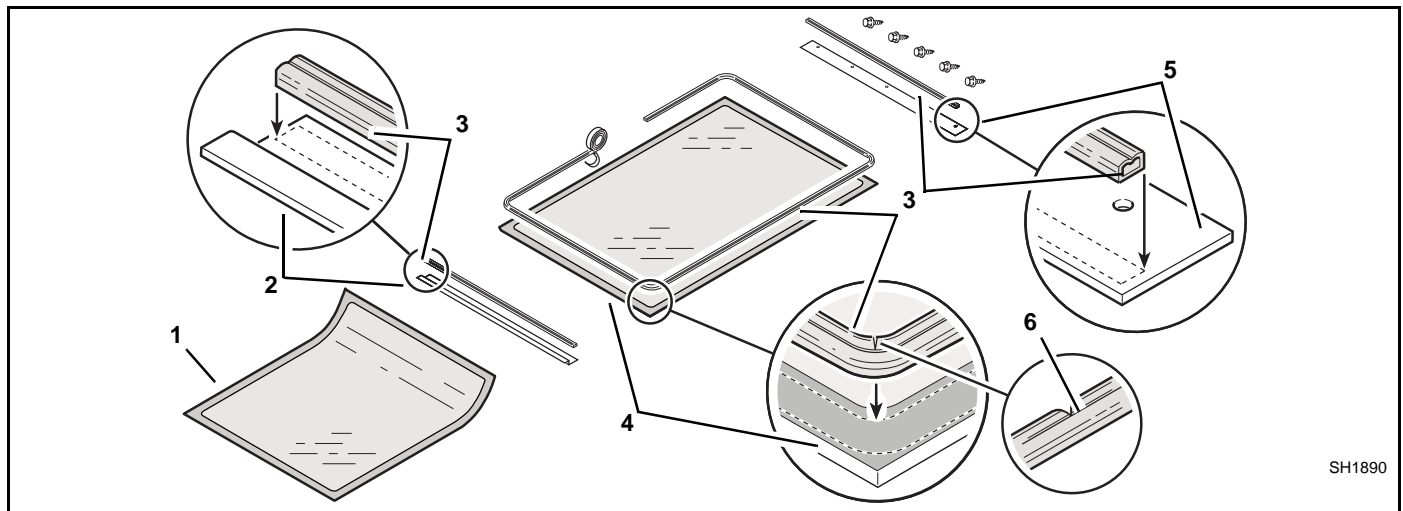

Figure 2
1. Lay the parts out as shown in Figure 2. Place the glass on a protective surface such as the bubble wrap packaging or cardboard. The black border on the glass should be facing up.
2. Using glass cleaner, clean the skylight glass (Figure 2, 1), windshield clip (2), windshield glass (4), and windshield plate (5). Allow the surfaces to dry completely.
3. Apply the bulb seal (Figure 2, 3) to the windshield clip (2).
4. Apply the bulb seal (Figure 2, 3) to the perimeter of the windshield glass (4). When applying the bulb seal around the corners, make a small triangular cut (6) on the inside corners so it will lay flat.
5. Apply the bulb seal (Figure 2, 3) on the lower windshield plate (5).